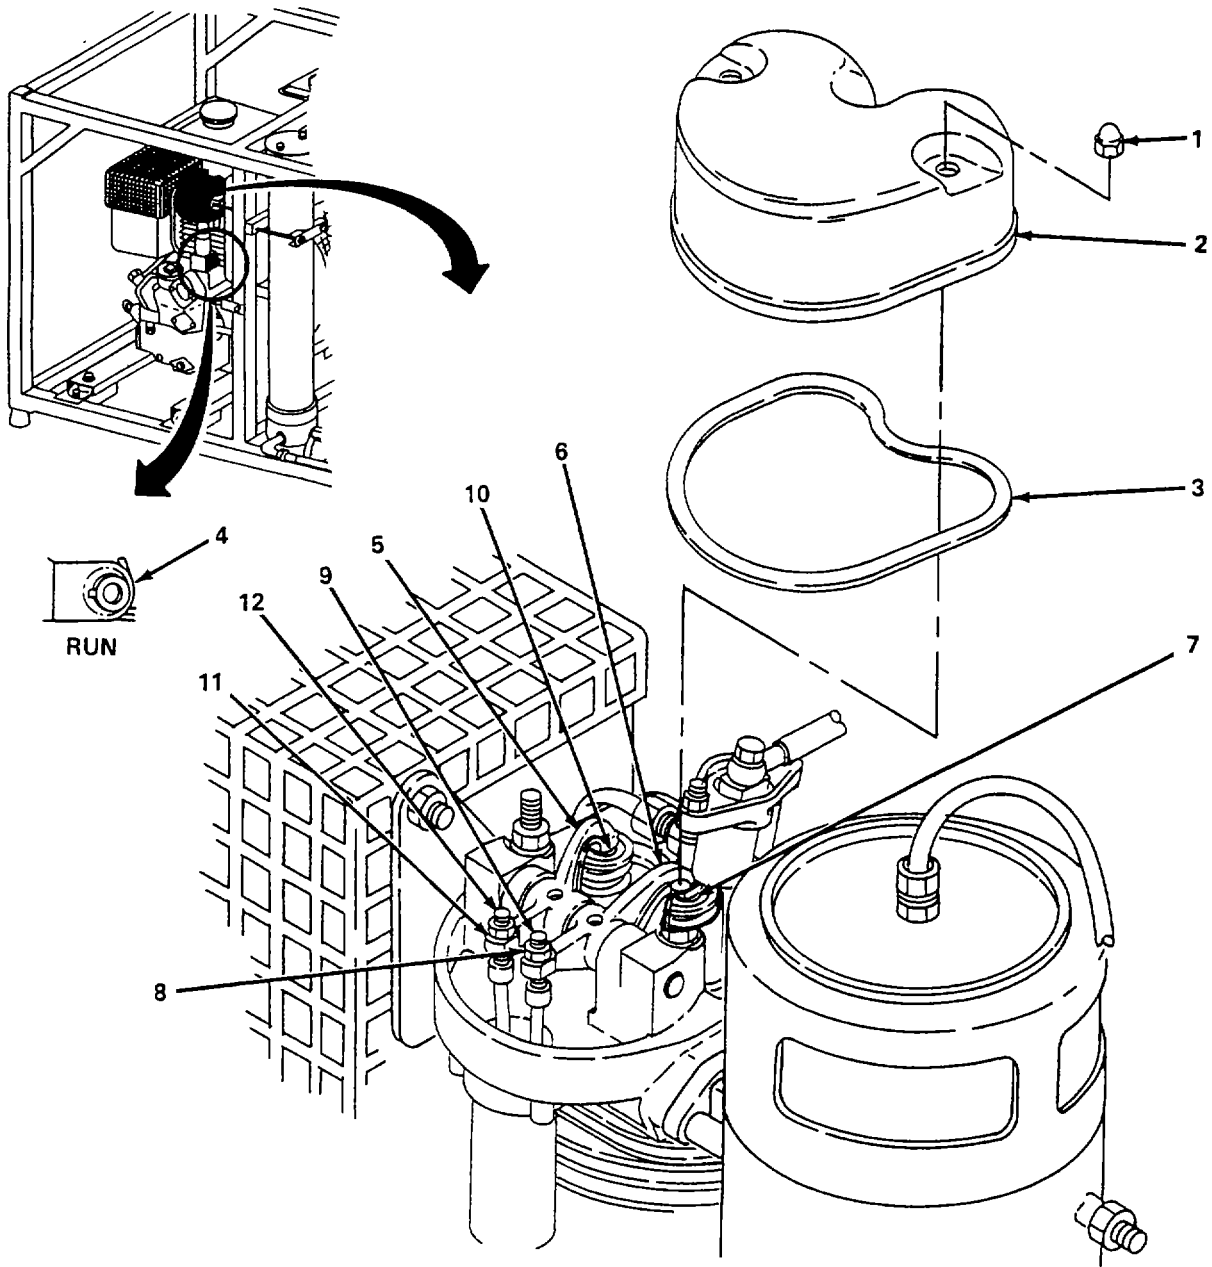

Figure 5-41. Valves, Adjust.
a. Adjust. (figure 5-41)
- (1) Remove two nuts (1), valve cover (2), and gasket (3). Discard gasket (3).
- (2) Set compression release mechanism (4) to run position.
- (3) Rotate engine until exhaust valve rocker (5) is fully open.
- (4) Measure gap between intake rocker (6) and valve stem (7). Measurement should be 0.004 in. (0.1 mm).
- (5) Loosen locknut (8) and turn adjuster (9) until there is a slight drag felt on feeler gage.
- (6) Hold adjuster (9) and tighten locknut (8). Recheck measurement and readjust if necessary.
- (7) Rotate engine until intake valve rocker (6) is fully open.
- (8) Measure gap between exhaust valve rocker (5) and valve stem (10). Measurement should be 0.004 in. (0.1 mm).
- (9) Loosen locknut (11) and turn adjuster (12) until there is a slight drag felt on feeler gage.
- (10) Hold adjuster (12) and tighten locknut (11). Recheck measurement and readjust if necessary.